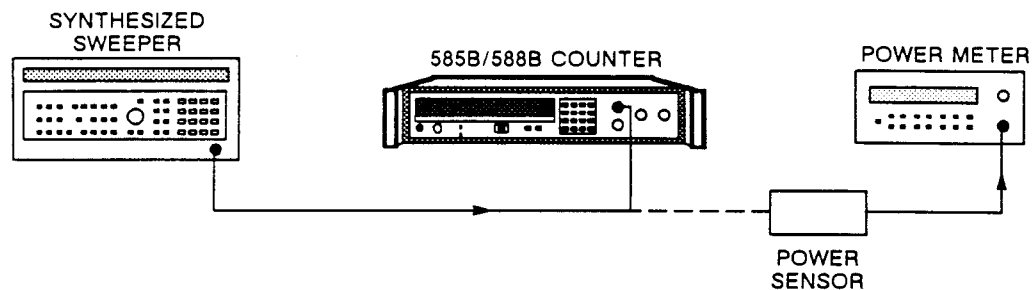

Figure 8-3. Band 0 Range and Sensitivity Test Setup (100 MHz to 250 MHz).
1. Connect equipment as shown in Figure 8-3.